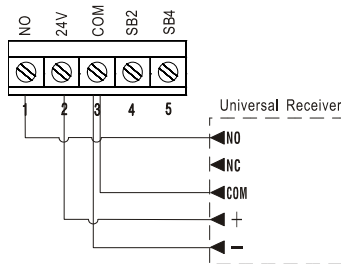

Fig. 14
- 24VDC universal receiver (Fig.14)